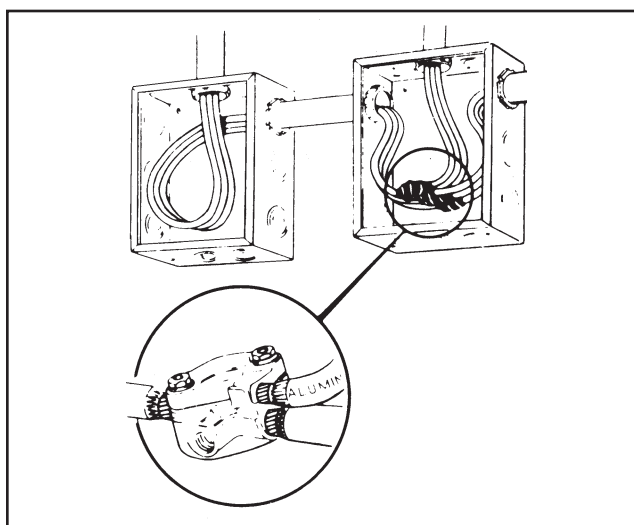

Figure 7
b) Tap connections are made (Figure 7).